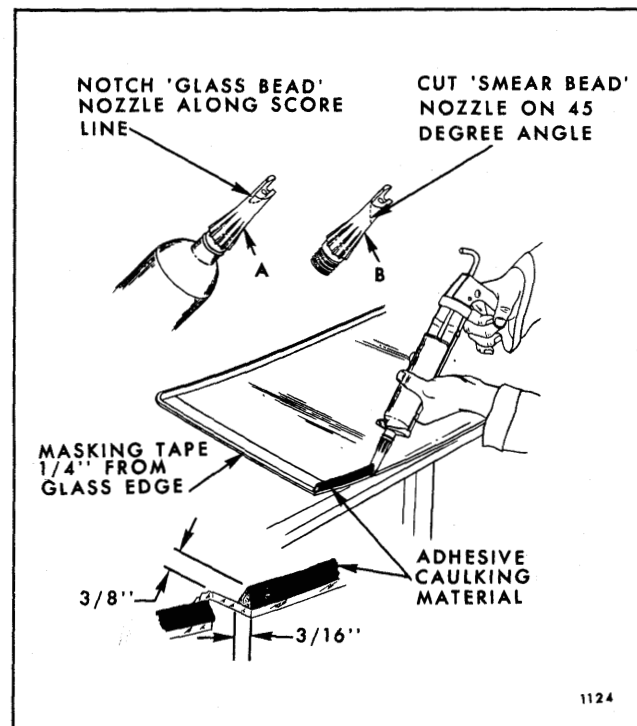

Fig. 9-3—Adhesive Caulking Installation - Extended Method
8. Apply one inch masking tape to inner surface of glass 1/4" inboard from outer edge up both sides and across top. Do not apply tape to bottom edge of glass. Instead, apply masking tape over painted feature strip below back window opening. (See Fig. 9-3.)
11. With caulking gun and nozzle positioned as illustrated in Figure 9-3 carefully apply a smooth continuous bead of caulking material 3/8" high by 3/16" wide at base completely around inside edge of glass.